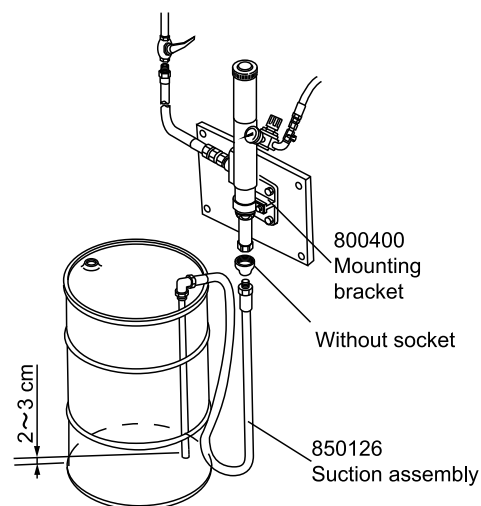

Fig. 5
- 1) Loosen the bolts of the pump fixing band for the mounting bracket (option, product number 800400) to remove the band. Set the pump onto the bracket, support with the pump fixing band, and fix with accessory bolts. When this is done, tighten the bolts to such an extent that the pump will not rotate. (The tightening torque is 12N-m or less.) If tightened too much, the plunger in the suction tube will not work. (Fig. 5)
- 2) Connect the Rc3/4 inch at the hose inlet port of the suction hose assembly (option, product number 850126) to the suction port of the pump. When this is done, wind commercially available sealing tape around the male screw if the pump and screw it in. (Fig. 5)